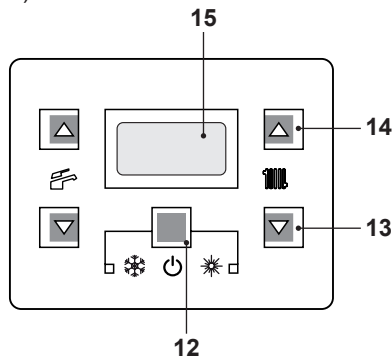

Fig. 7.5
- Press the 12 key for 2 seconds until both  symbol appear on the display (Fig. 7.5).
- Switch off the boiler by pressing the 12 (Fig. 7.5) key for 2 seconds until the  symbol appears on the LCD display (Fig. 7.4).